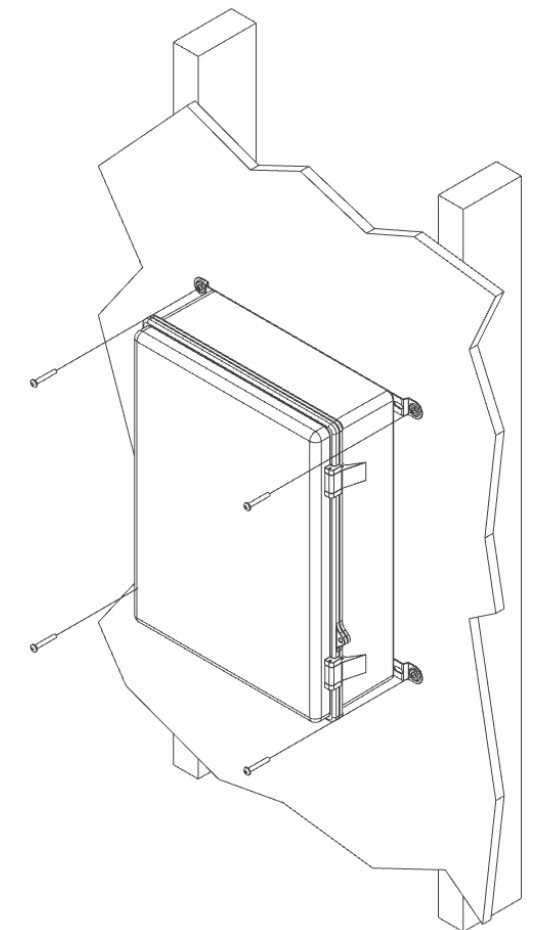

Figure 5
Step 5 – Place the enclosure on the wall where it is to be installed (it is recommended that you mount directly to a stud). Mark the screw locations (note: there are several screw holes located in the back of the enclosure that are intended to be used for mounting purposes). Use a minimum of two (2) #10 x 2" or larger screws to secure the enclosure in place. However, if there is no stud at the mounting location, it is recommended that you use a minimum of 4 drywall anchors to secure the enclosure in place (Figure 5).